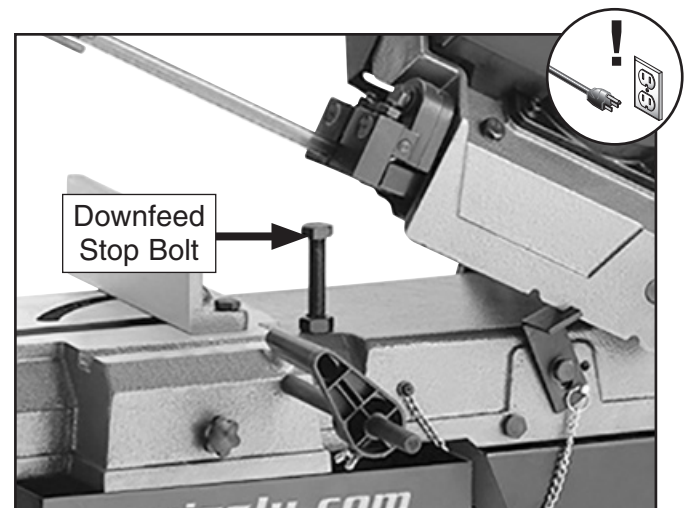

Figure 56. Location of downfeed stop bolt.
3. Lower headstock until it contacts downfeed stop bolt (see **Figure 56**).